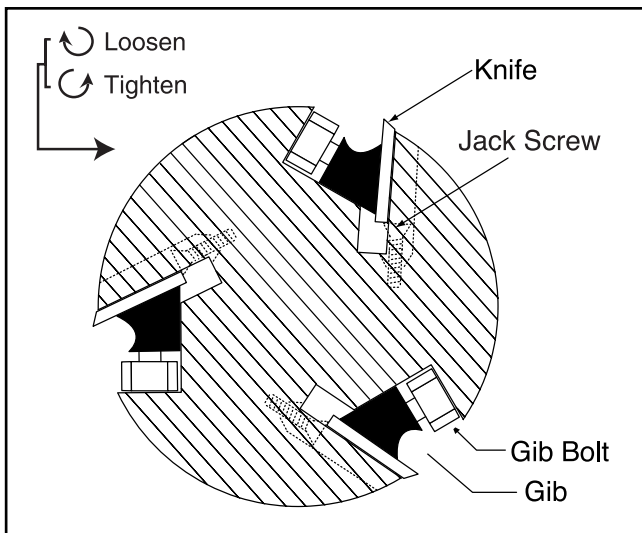

Figure 17. Side view with jack screws.
3. Loosen the gib bolts until the knife is loose in the slot. The gib bolts turn clockwise to loosen and counterclockwise to tighten (when facing the head of the bolt). **See Figure 17.**